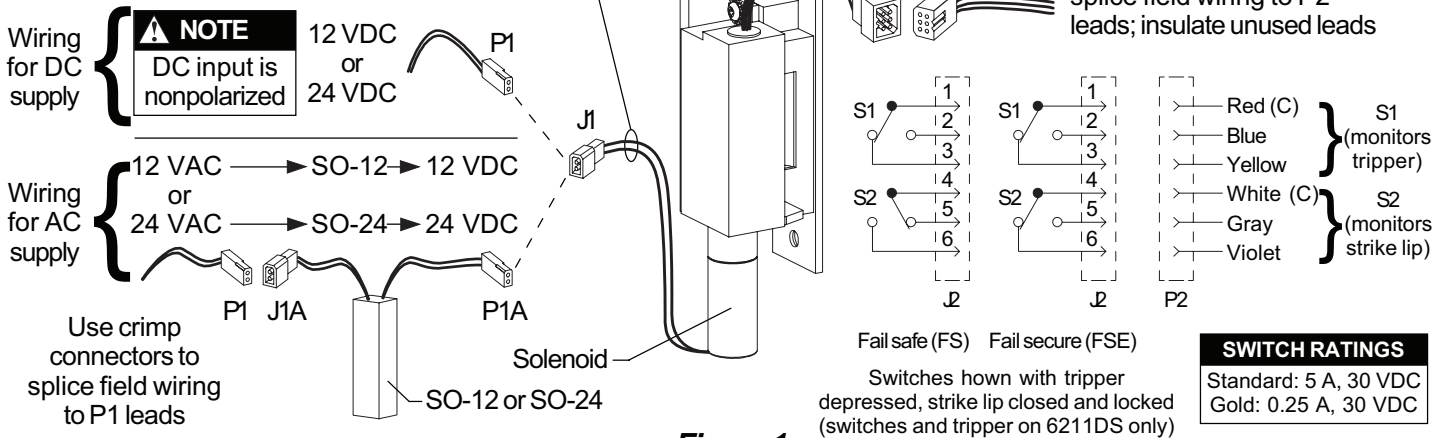

Figure 1
3. Wire strike (Figure 1). (Switches on 6211DS only.)
5. Test strike: Apply solenoid power. Fail secure (FSE) lip unlocks. Fail safe (FS) lip locks. Figure 1 shows status of switches.